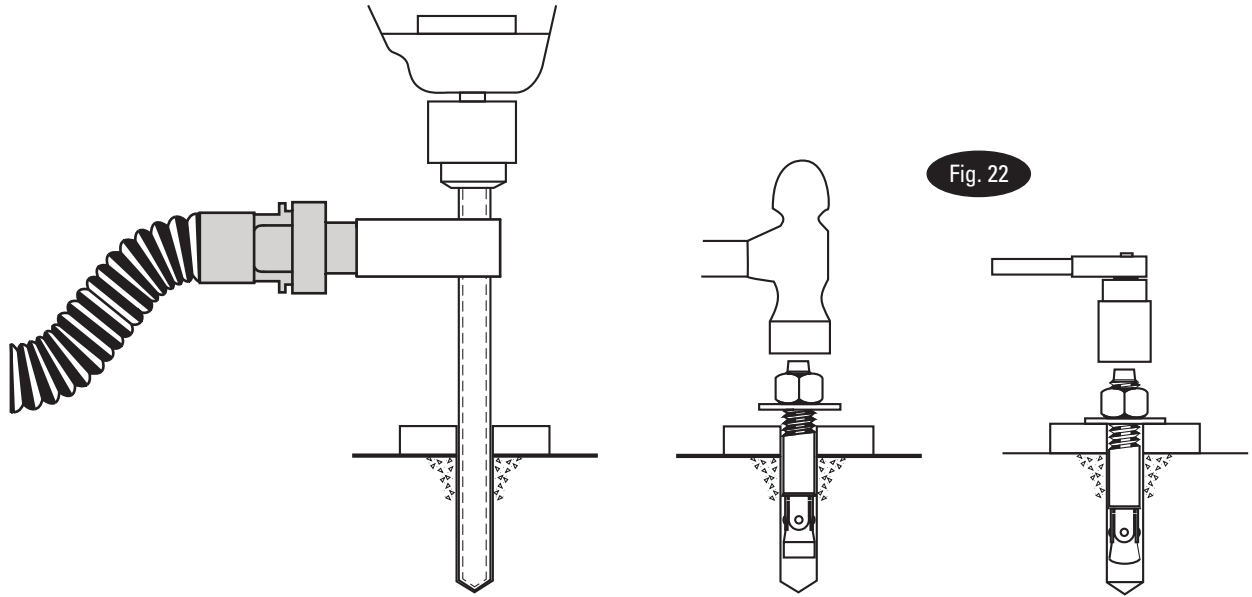

Fig. 22
1. Drill holes using base plates as a template and install anchors as shown in Fig. 22.